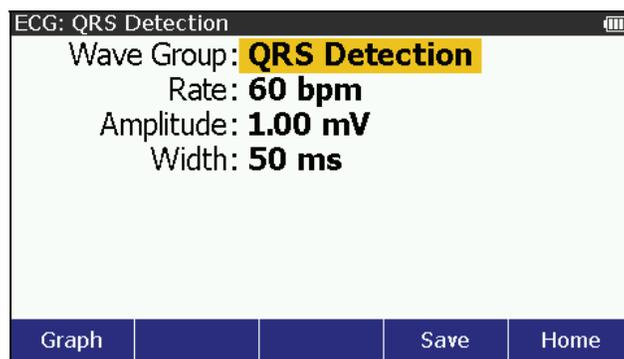

Figure 12. QRS Detection Screen
5. Push **ENTER** to show the **ECG: QRS Detection** screen in Figure 12 in the display.